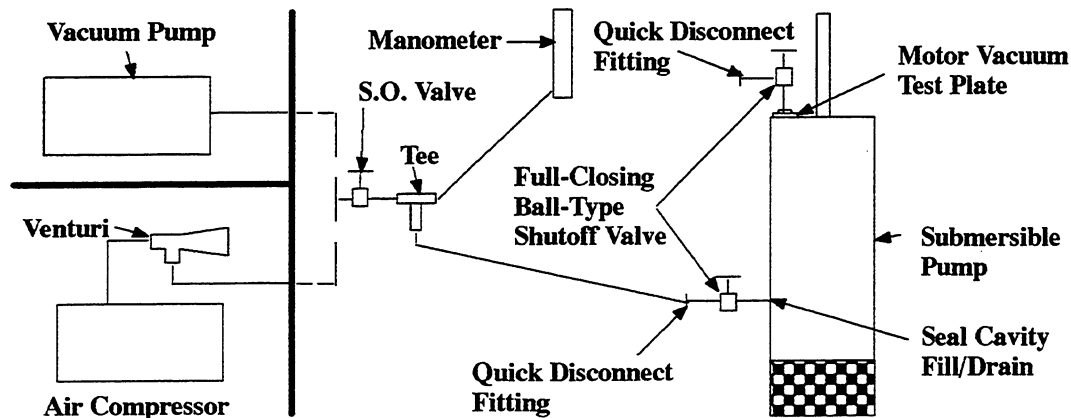

Figure C-9. Vacuum Test System
See Figure C-9 and connect the vacuum pump or compressor/venturi system directly to the pump at the hole for the seal cavity drain plug (8).
It is recommended that a vacuum pump be used to draw the vacuum on the cavities. If a vacuum pump is not available, a compressor/venturi system may be used, see Figure C-9.
Connect the vacuum pump or compressor/venturi system to the pump as shown in Figure C-9.
Figure C-9 shows a simple schematic for setting up either a vacuum pump or a venturi/compressor test system.